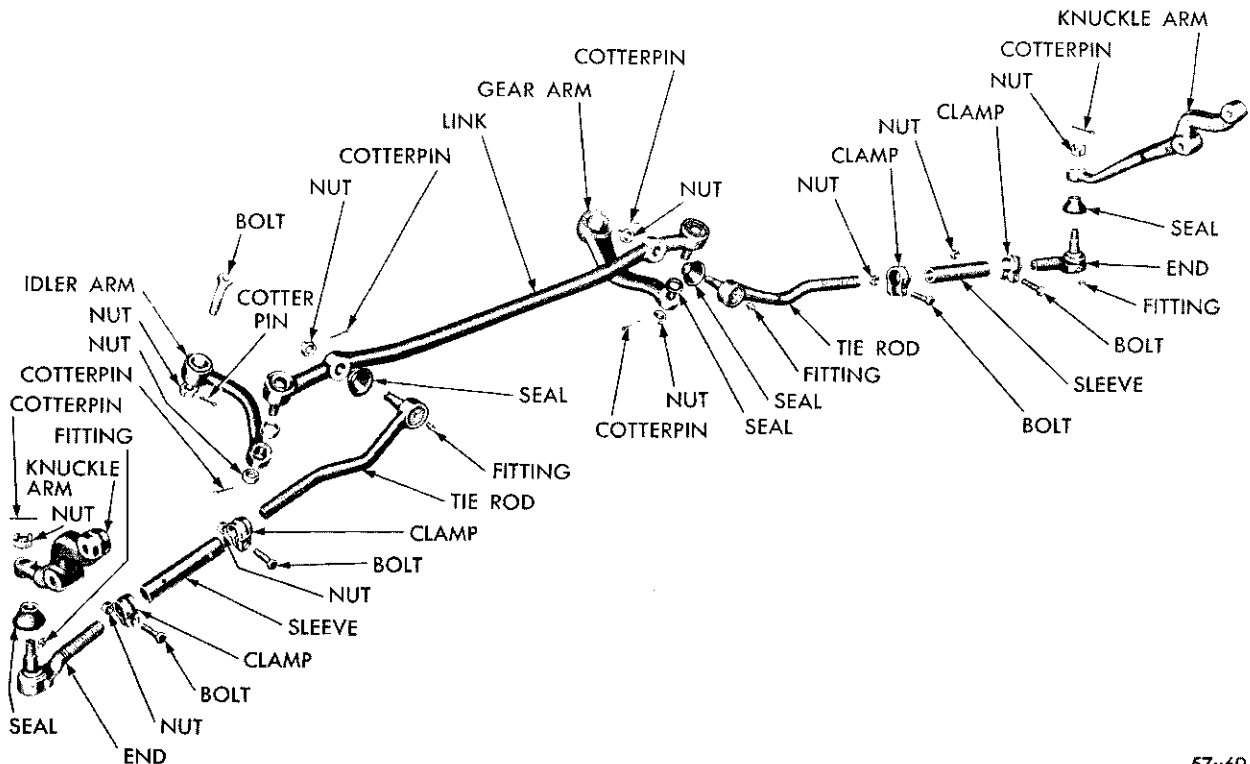

Fig. 10—Steering Gear Linkage
(4) Measure the width of the idler bracket. The distance between the bushing contact surfaces should be 2¼ inches (Fig. 10).
(5) Install the idler arm (protect bushing ends from being damaged from the sharp edges of the mounting bolt holes by using a shim stock over the holes).
(6) Coat the mounting bolt with lubriplate and slide the bolt through the bracket and bushing; install the nut.
(7) With the wheels in the straight-ahead position, tighten the nut to 85 foot-pounds torque; install the cotter pin.